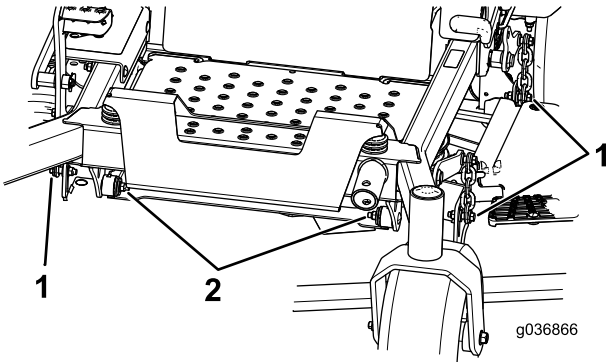

Figure 86
- 8. Remove and retain the bolts and nuts on both sides of the machine (Figure 86).